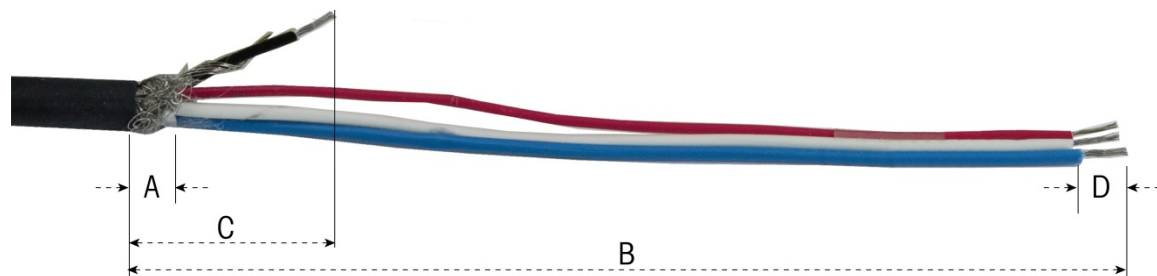

Figure 2-80: PowerMount Cable Preparation – Panel
1. Cut and remove an appropriate length of the insulation jacket, the inner braided shield and insulation as shown in Figure 2-80. The suggested lengths are listed in Table 2-9.
11. Wrap the drain wire around the black wire. Crimp the provided ring terminal onto the end of this assembly as shown in Figure 2-80.